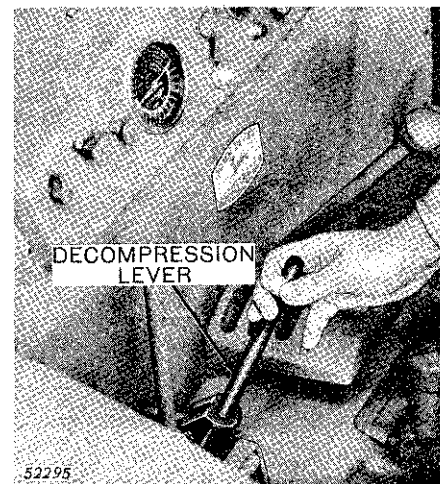

Figure 10-10-2—Operating Decompression Lever
- (1) Allow the cranking engine to run a short while before engaging it with the diesel engine. The length of time will vary with the air temperature, being normally from 1 to 3 minutes.
- (2) Turn the cranking engine throttle lever clockwise to the "run" position.
- (3) Pull the decompression lever to the rear (Figure 10-10-2).